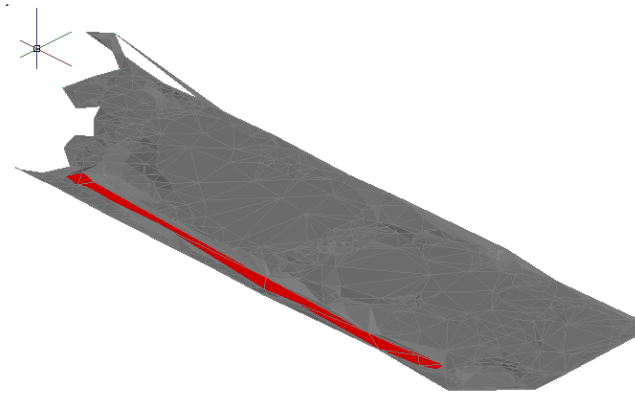

Figure 3-69 The realistic view of the surface after pasting the E Street surface over the EG surface
5. Choose the **View** tab and then select the **Realistic** visual style from the **Visual Style** drop-down list in the **Views** panel; the **E Street** surface is displayed, as shown in Figure 3-69.